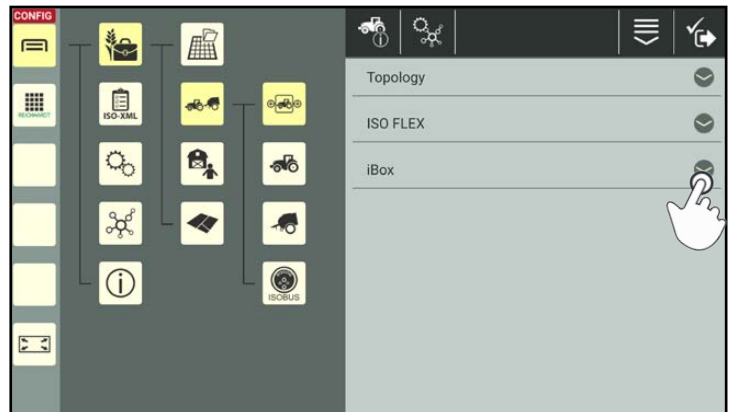

Fig. 15: Opening the SMART iBox settings
- Open the topology settings and the SMART iBox settings (see Fig. 15).